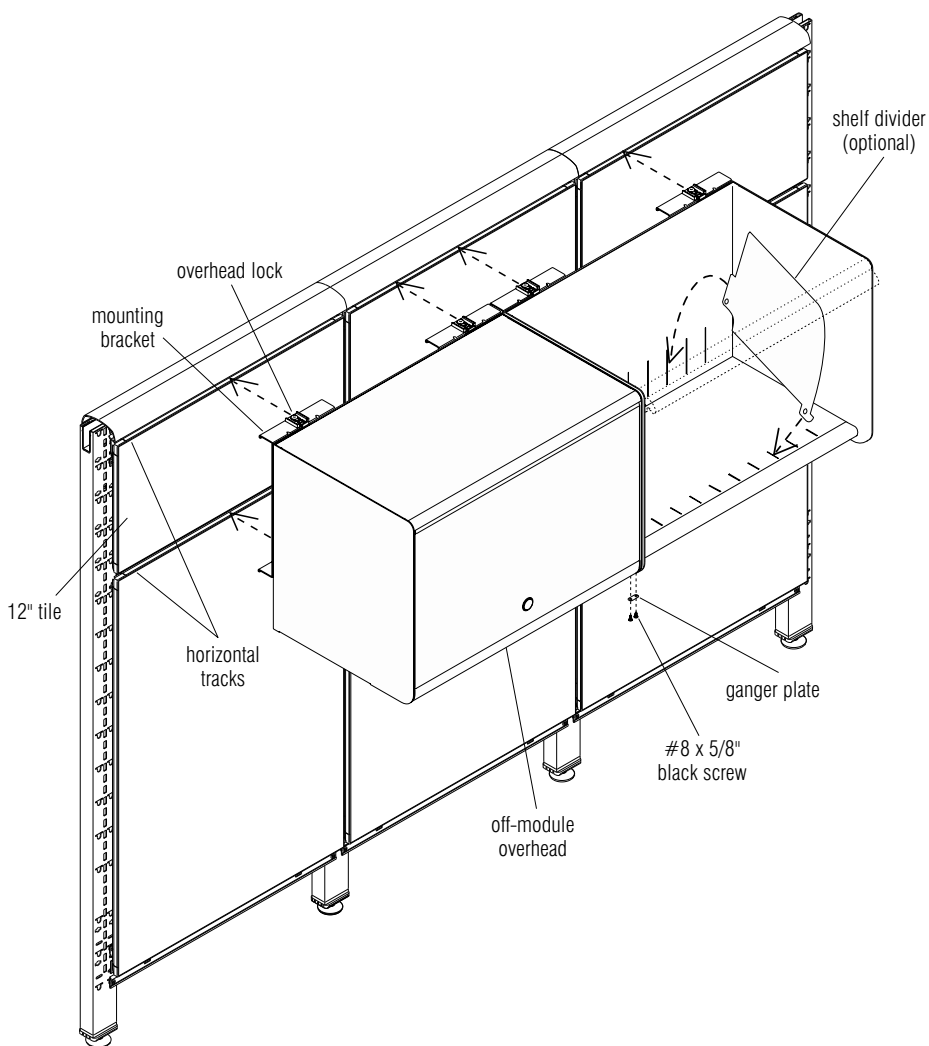

Figure 32
Off module mounted cabinets can only be hung with the top aligned to a 12" tile. To make hanging the overhead easier, remove the tile or top cap directly above the overhead. With the overhead locks pulled out (toward the front of the cabinet), hang the top and bottom of the mounting bracket into the tracks of the panel's horizontal rail. Make sure the cabinet is hanging on the horizontal rail and not on the tile. After the cabinet is hung in the track, move it to the desired position by gently lifting up while sliding it. Secure the cabinet on the tracks by pressing the overhead locks into the track. **Figure 32.**
9. When two or more cabinets are installed next to each other, secure them together with a ganger plate. Fasten a ganger plate to the cabinet bottoms with two #8 x 5/8" black screws. **Figure 32.**
10. To install shelf dividers (optional), first place the front hook of the divider into the front slot of the shelf. Then rotate the rear of the divider down until the the tab snaps into the vertical slot in the cabinet back, **Figure 32.** To remove the divider, press lightly on the cabinet back to release the rear tab and rotate it out.